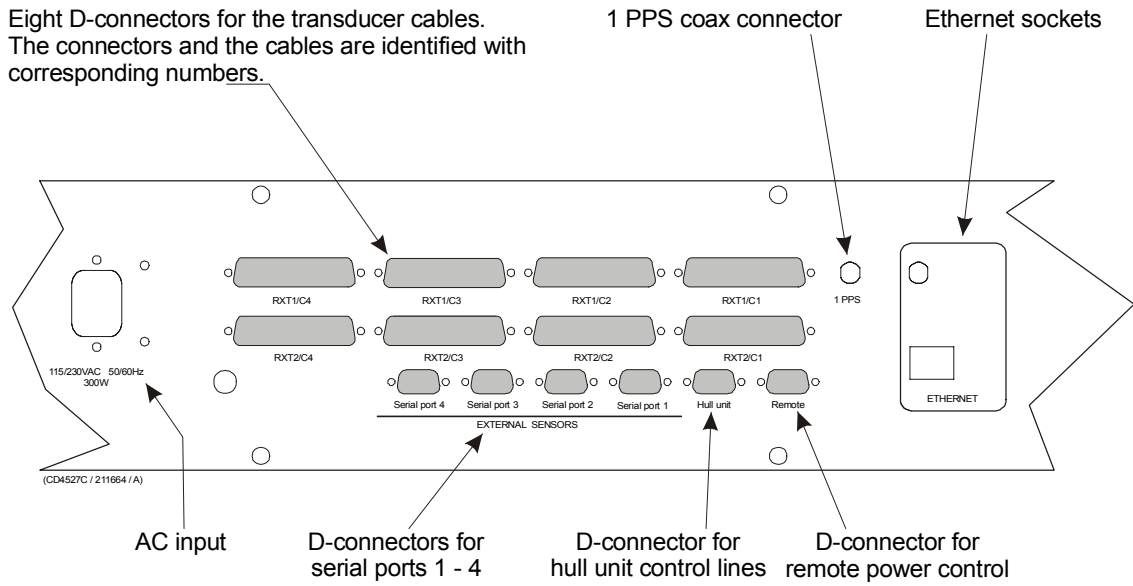

Figure 4 Cable entries under the EM 1002 Transceiver Unit
- *Refer to figure 4 on page 28 for the cable entries.*